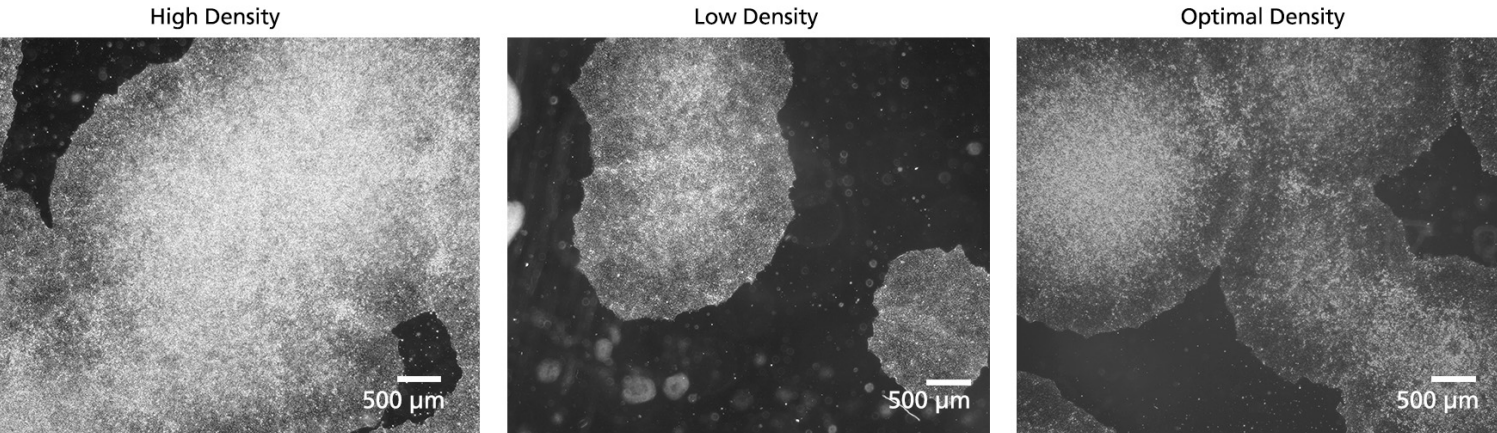

Figure 2. SCTi006-A iPSCs Demonstrate Varying Colony Densities When Seeded at a Range of Starting Concentrations
14. On Day 6 - 8, select the well with optimal iPSC colony density for passaging (Figure 2). The culture should consist of healthy iPSC colonies that are large, compact, and have centers that are dense compared to their edges.